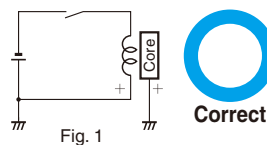
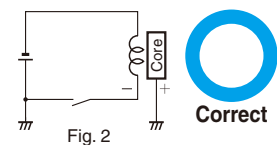

Fig. 1
Fig. 2
- (1) Ground the positive side of the power supply. (Fig. 1 and Fig. 2)